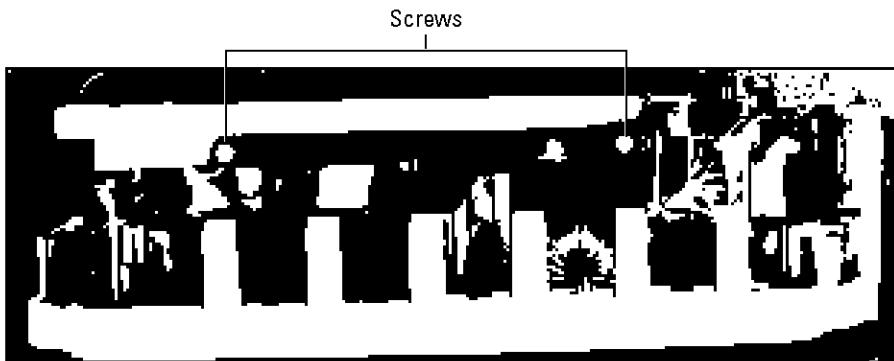

Figure 8-5:
3. Turn the Mac mini so that the right side is facing up, as shown in Figure 8-5.
4. Look under the part of the drive that juts out toward you and remove the two small screws in the black plastic frame, as shown in Figure 8-5.
3. Replace the four screws, two on each side, in the black frame (refer to Figures 8-5 and 8-6).